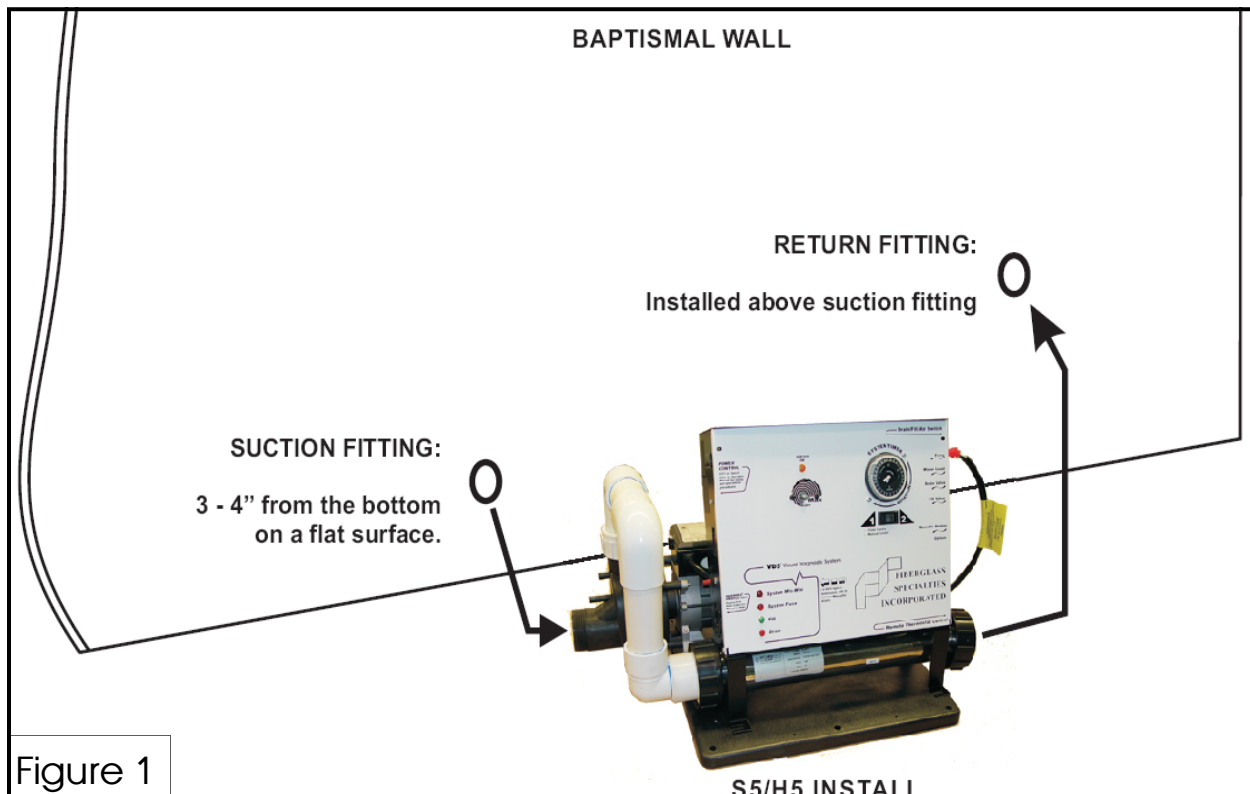

Figure 1
3. With the heater in its final position, in line and level with the suction fitting location, determine the exact position of the heater by preassembling the plumbing headers and circuits as shown in **Figure 1, Page 7. Be sure to align the fittings and support the heater in such a way that the plumbing is not put into tension with the baptistry wall. Such tension can cause unnecessary leaks and noise due to vibration.**